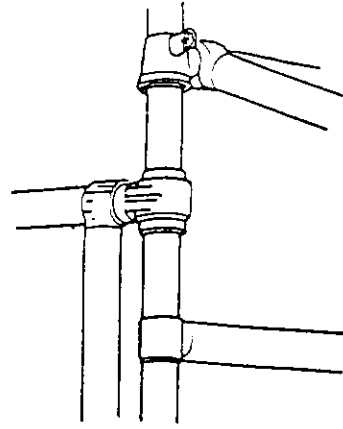

Fig.25
- b. Ensure that the upper hook clips into place between the two collars as shown in Fig. 25.